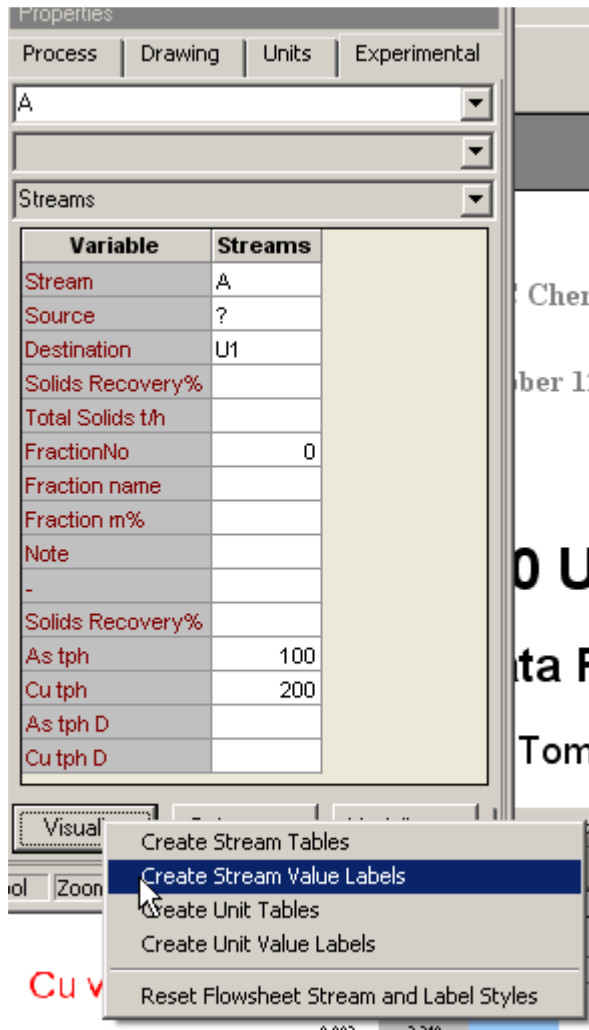

Figure 8. Creating Stream Value Labels.
5. To visualize the data in the flowsheet create the value labels: press Visualize and select “Create Stream Value Labels” (Figure 8).